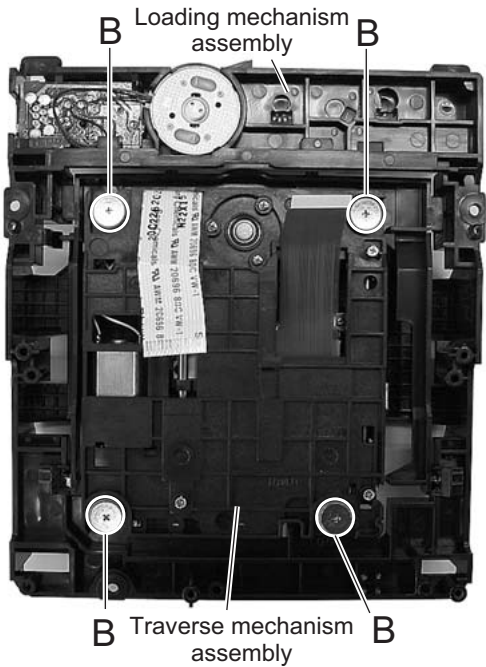
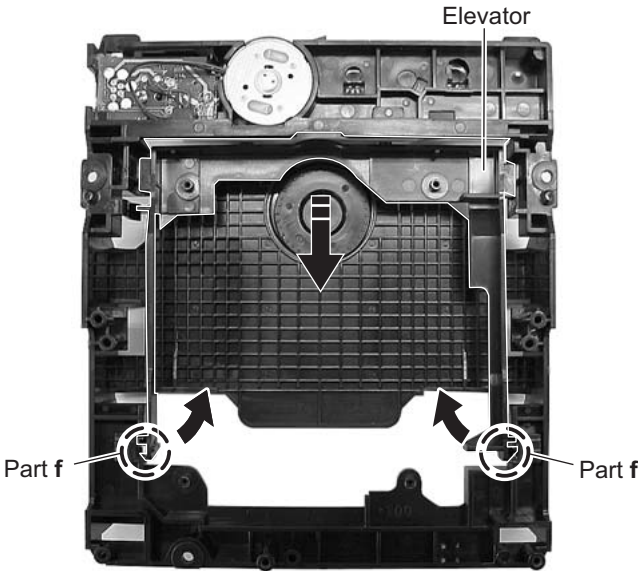
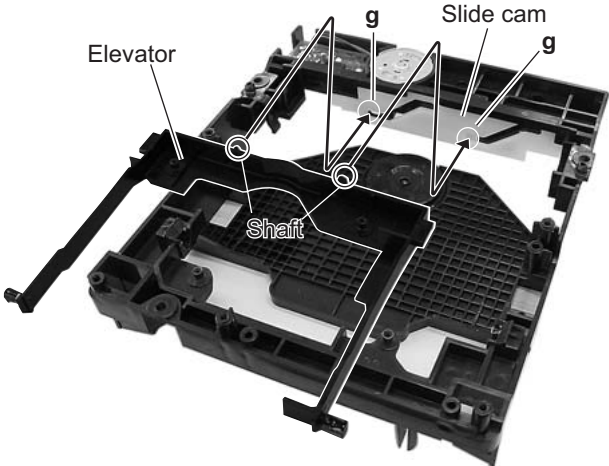

Fig.7
Fig.8
Fig.9
2.1.5 Removing the rear panel (See Figure 7, Figure 8)
2.1.6 Removing the output terminal board and power supply board. (See Figure 8)
2.2.2 Removing the traverse mechanism assembly (See Figure 7)
2.2.3 Removing the elevator (See Figure 8 and Figure 9)